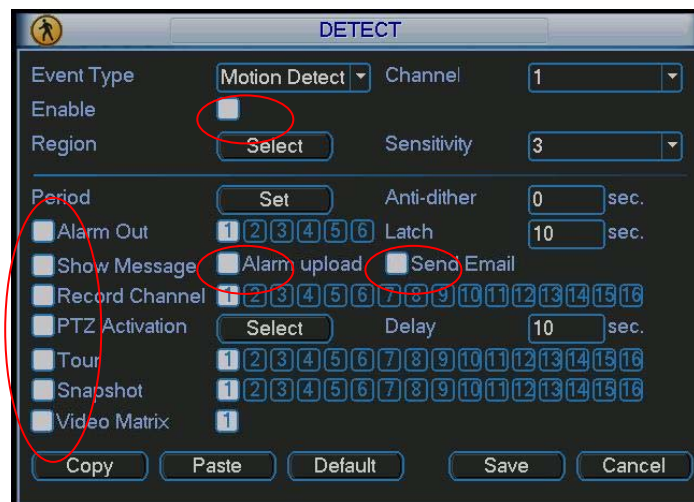
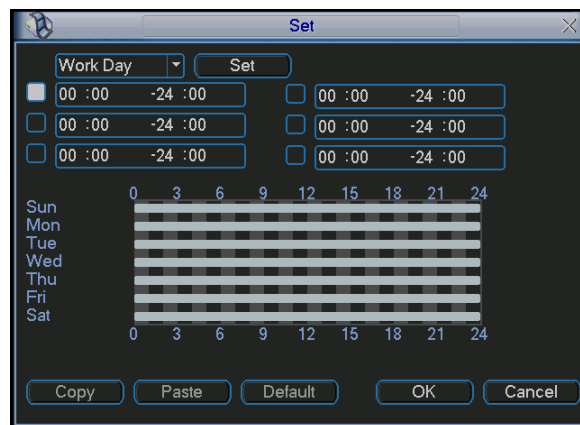
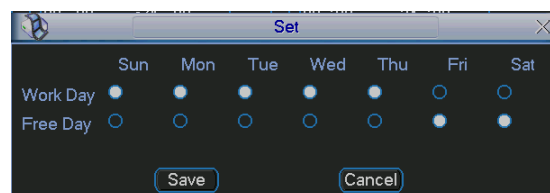

Figure 4-19
Figure 4-22
Figure 4-23
In the main menu, from Setting to Detect, you can see motion detect interface. See Figure 4-19. There is three detection types: motion detection, video loss, camera masking.
Detection menu is shown as below. See Figure 4-19.
- Period: Click set button, you can see an interface is shown as in Figure 4-22. Here you can set for business day and non-business day. In Figure 4-19, click set button, you can see an interface is shown as in Figure 4-23. Here you can set your own setup for business day and non-business day.
In Figure 4-19, select video loss from the type list. You can see the interface is shown as in Figure 4-24. This function allows you to be informed when video loss phenomenon occurred. You can enable alarm output channel and then enable show message function.